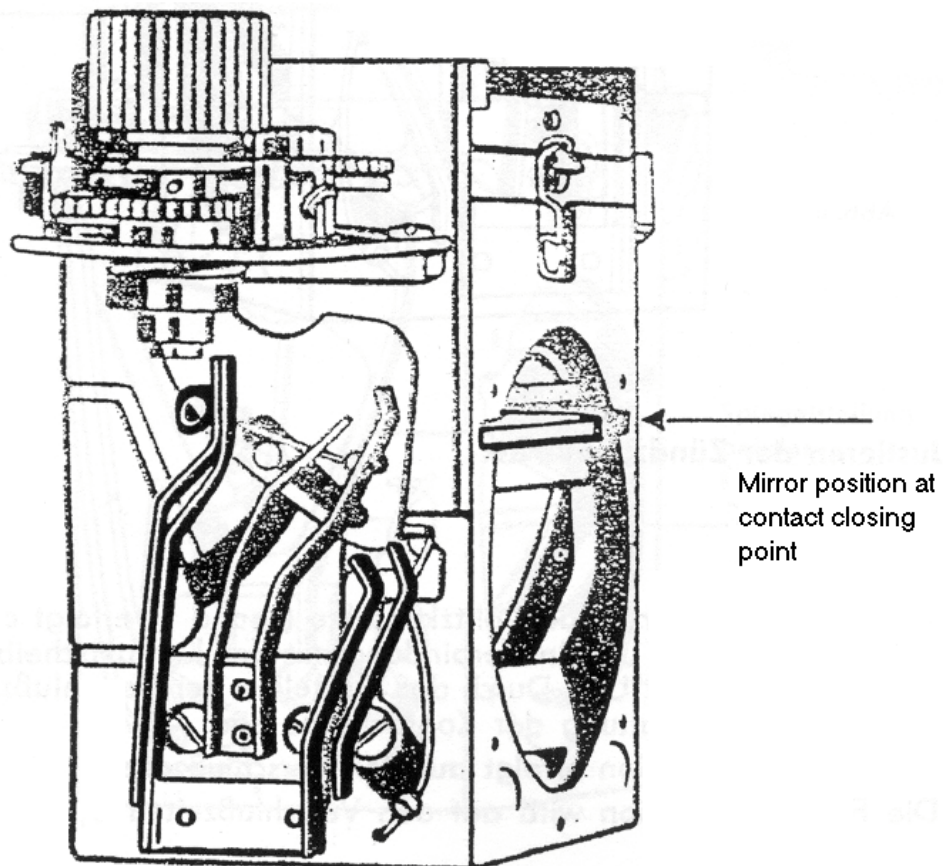

Fig. 5
- Holding the leading edge of the shutter flap with a finger, fire the shutter and let the leading edge of the shutter flap run slowly. The X-contact must fire near the position shown in Fig. 5, and the F-contact near the position shown in Fig. 6. If they do not do so, the contact spring must be bent at the flash contact accordingly.